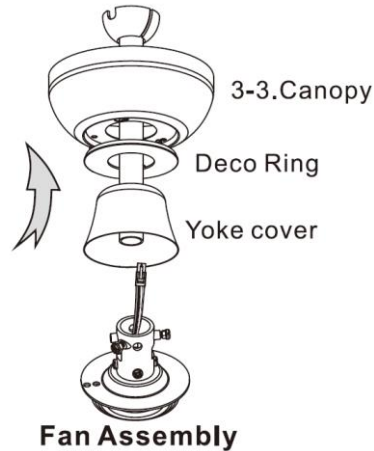

Fig. 5
5. Insert the downrod through the yoke cover, Deco Ring and canopy, and feed the motor wires and plug through the downrod (Fig. 5).